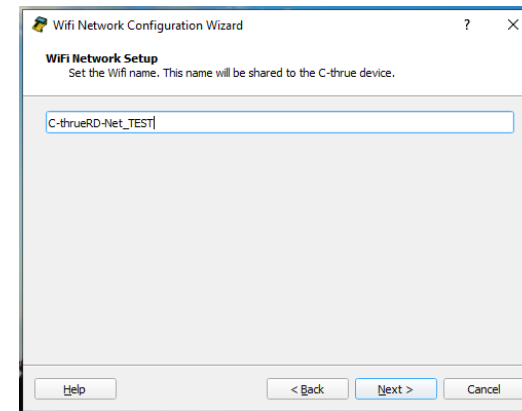

Fig. 96 – Network rename
- 4) By clicking on  the User will be able to rename the default wifi network (**C-thrueRD-Net**) with any required name (i.e C-thrueRD-Net\_TEST; Fig. 96).